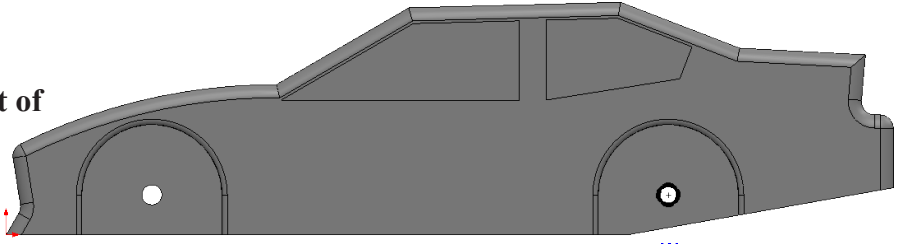

Fig. 82
Step 5. Draw a **Point** below rear axle hole, **Fig. 82**.